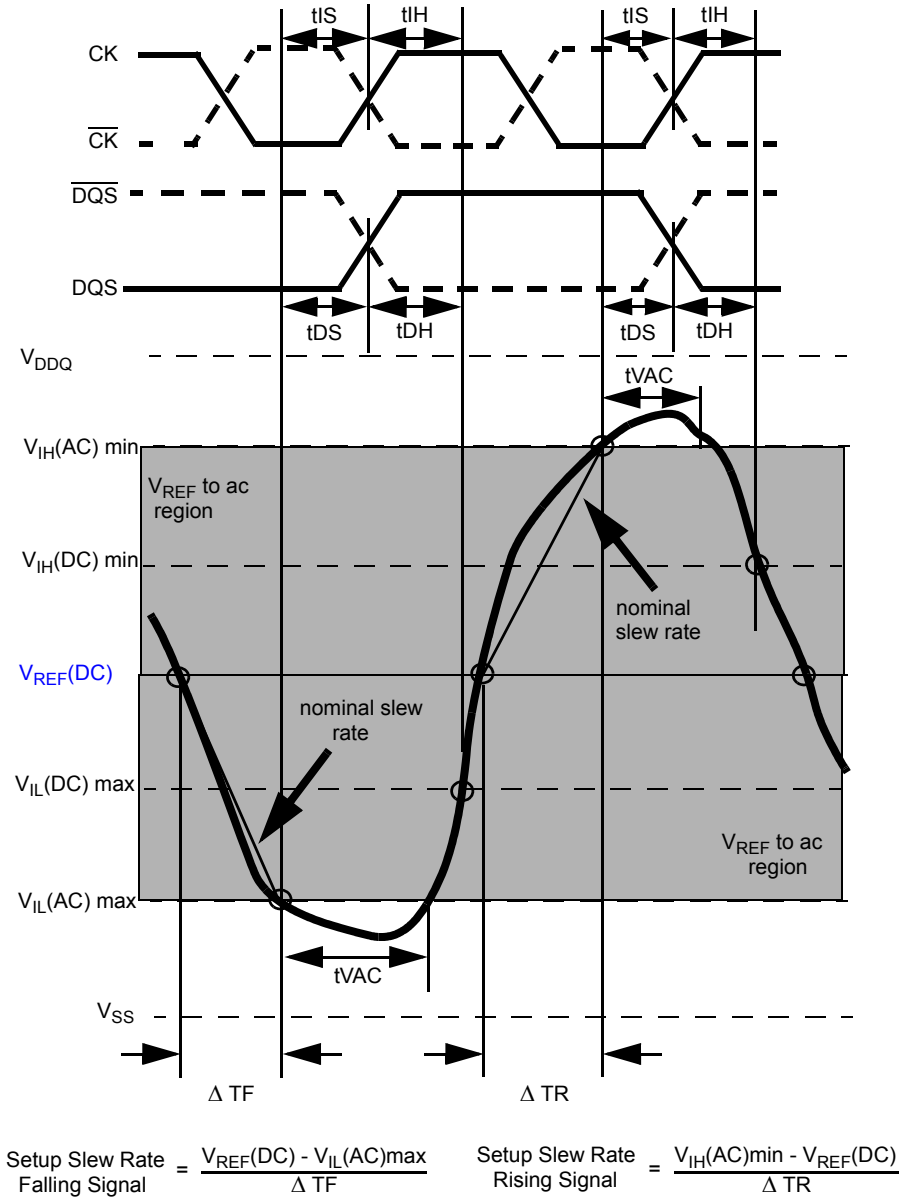
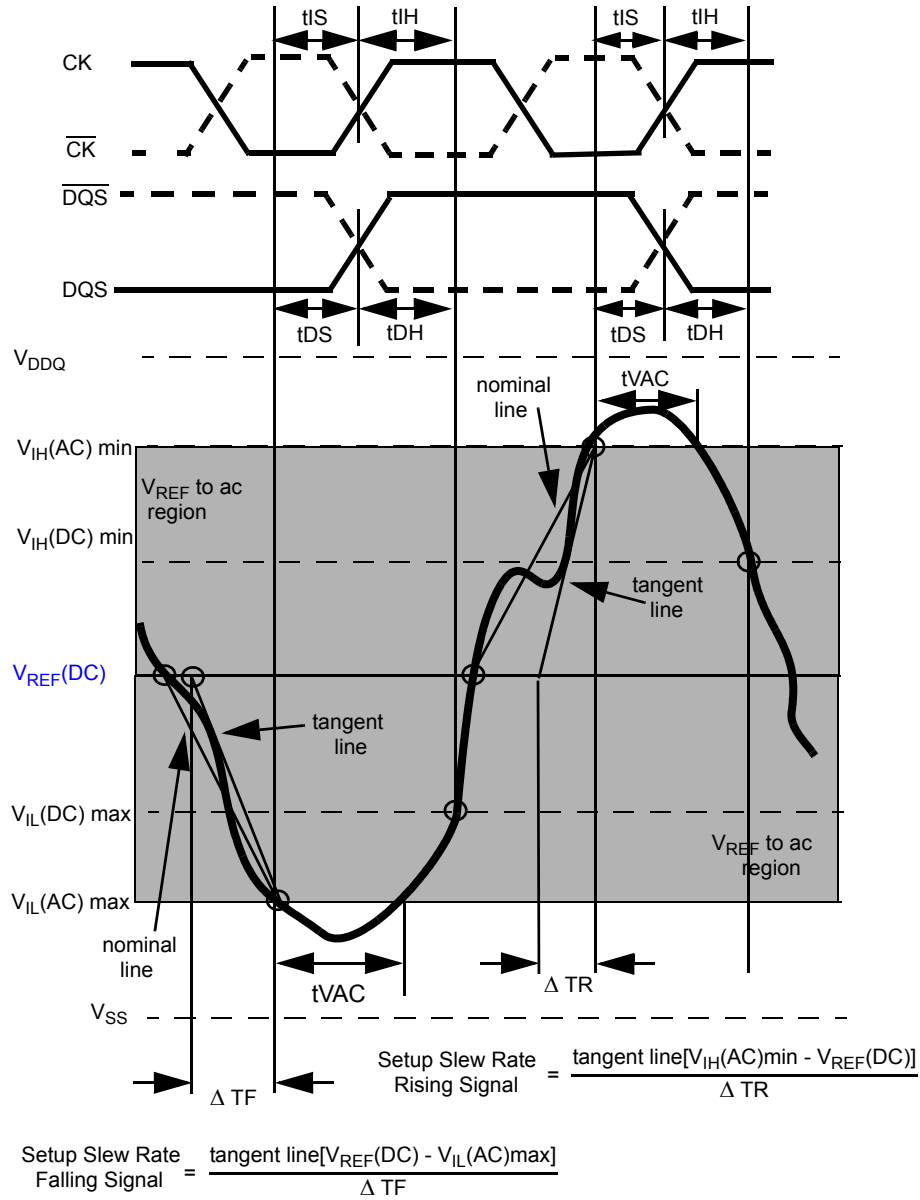

Figure 20. Illustration of nominal slew rate and t_{VAC} for setup time t_{DS} (for DQ with respect to strobe) and t_{IS} (for ADD/CMD with respect to clock).
Figure 22. Illustration of tangent line for setup time t_{DS} (for DQ with respect to strobe) and t_{IS} (for ADD/CMD with respect to clock)
Example: tIS (total setup time) = tIS(base) + ΔtIS Setup (tIS) nominal slew rate for a rising signal is defined as the slew rate between the last crossing of V_{REF}(DC) and the first crossing of V_{IH}(AC)min. Setup (tIS) nominal slew rate for a falling signal is defined as the slew rate between the last crossing of V_{REF}(DC) and the first crossing of V_{IL}(AC)max. If the actual signal is always earlier than the nominal slew rate line between shaded 'V_{REF}(DC) to ac region', use nominal slew rate for derating value (see Figure 20). If the actual signal is later than the nominal slew rate line anywhere between shaded 'V_{REF}(DC) to ac region', the slew rate of a tangent line to the actual signal from the ac level to dc level is used for derating value (see Figure 22).